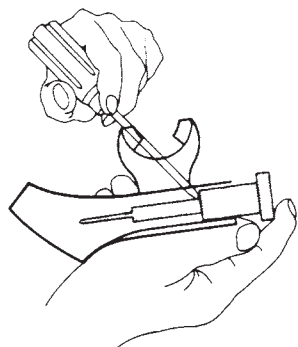

FIGURE 2
2. Remove the low pressure valve assembly (16) with a screw driver (see Fig. 2). Make sure the servo valve shaft is not bent during this operation.